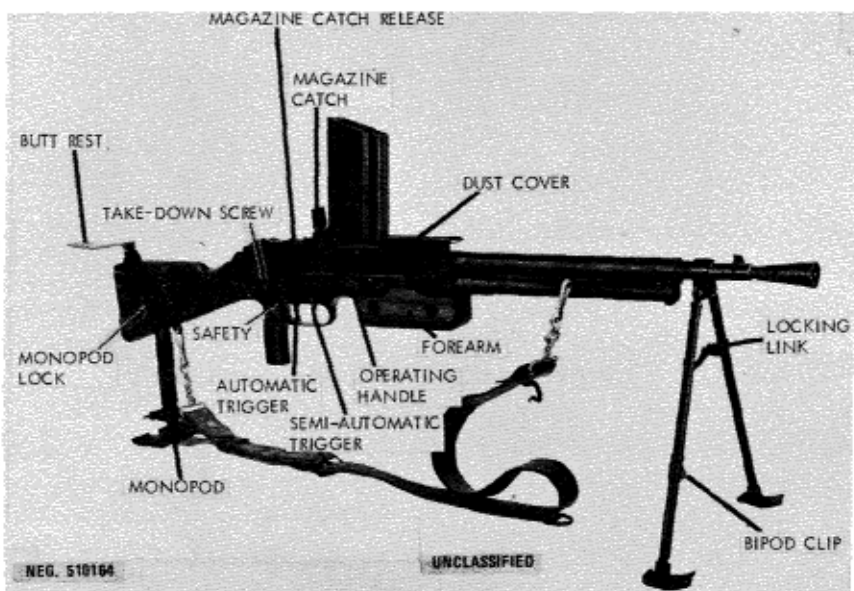
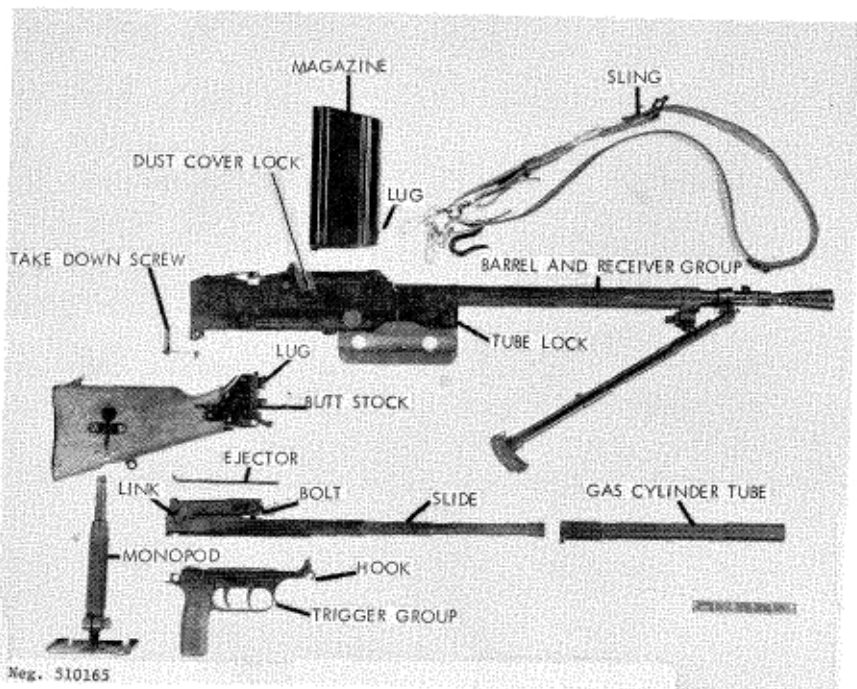

Figure 165. French Model 24/29 light machinegun.
Figure 166. M24/29 disassembled.
The 7.5-mm Model 24/29 (fig 165) was a standard pre-World War II French Army weapon that was put back into production after the war. It is an excellent weapon of simple design and unsurpassed ease of maintenance. Although the French refer to this weapon as an automatic rifle, it is a light machinegun by contemporary standards. The Model 24/29 is sometimes referred to as the Chatellerault machinegun. Its double triggers, large wood forearm, and multiperforated conical flash hider are prime recognition features. There is a large vertical hole in the forearm; this is to adapt the gun to an antiaircraft or vehicular post mount. Although obsolescent in the French Army, the Model 24/29 is still in widespread use in many former French possessions. The Model 24/29 fires the 7.5x54-mm cartridge (sec V).
c. Open the dust cover by turning the dust cover lock (fig 166) upward, then pull the magazine catch release (fig 165) rearward; this will allow the magazine catch to spring up into position. Fold the dust cover forward over the barrel. If necessary, the rear sight aperture can be swung to the left for use. Set the sight to the desired range by depressing the locks and moving the slide along the ramp until the top of the slide is aligned with the figure that corresponds to the range in hundreds of meters. Unfold the butt rest if desired.
d. Hold the magazine, tilted forward, and mate the lug (fig 166) on its front side with the recess in the magazine well. Rotate the magazine rearward until the magazine catch snaps into place. Pull the operating handle fully rearward; then push it forward. CAUTION: The gun is now ready to fire. If desired, render the gun safe by moving the safety (fig 165) downward.
f. When the last cartridge in the magazine is fired, the bolt will remain open. Press the magazine catch (fig 165) toward the magazine and, at the same time, tip the magazine forward out of the gun.
g. To clear the M24/29, rotate the safety downward, remove the magazine (para f above), and pull the bolt fully rearward. Inspect to insure that no cartridges are present. Press the safety upward, hold back on the operating handle, press one of the triggers, and ease the operating mechanism forward. Swing the dust cover (fig 165) to the rear over the magazine opening; then
h. Fold the bipod by pressing the center of the locking link upward; then fold the legs together. Swing them backward and secure them with the bipod clip (fig 165). The bipod can be stowed under or alongside the barrel.
b. Unscrew the takedown screw (fig 165) until it can be pulled out of its hole. Tilt the butt up and off the receiver. The trigger group will swing down.
d. The driving spring can now be pulled rearward and removed from the slide (fig 166).
e. Pull the operating handle rearward. This will move the bolt and slide to the rear where they can be grasped and pulled out of the receiver. Turn the tube lock (fig 166) to the vertical position and swing the rear end of the gas cylinder tube to the right; after it disengages from the receiver, it can be removed.
h. Place the bolt onto the slide, position the link (fig 166), and replace the link pin.
j. Push the bolt as far forward as possible on the slide; then insert the bolt and slide into the receiver, insuring that the piston enters the gas cylinder tube. Tip the muzzle down so that the bolt and slide will go fully forward. Replace the ejector (fig 166) into its recess.
k. Insert the driving spring and guide into the slide, guide to the rear. Mate the hook (fig 166) on the trigger group with its cross pin in the receiver; then swing the trigger group up into place.
l. Hold the stock at an upward angle to the receiver and fit its lug (fig 166) into its recess in the inner top of the receiver. Hold the trigger group up in place and swing the stock down until it seats against the receiver. Insert the takedown screw, from the right, and screw it fully home. Close the dust covers, fold the aperture to the right, and press the magazine catch down until it is locked in place.